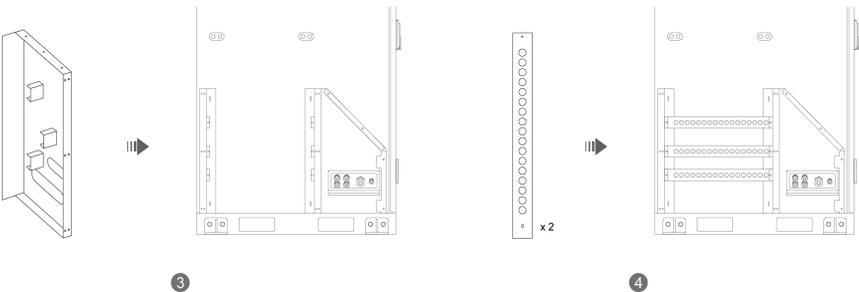

Figure.2
2. Install the part 3 and part 4, and then secure with screws. It is noted to install two units for the Part 4. See the Figure.2.